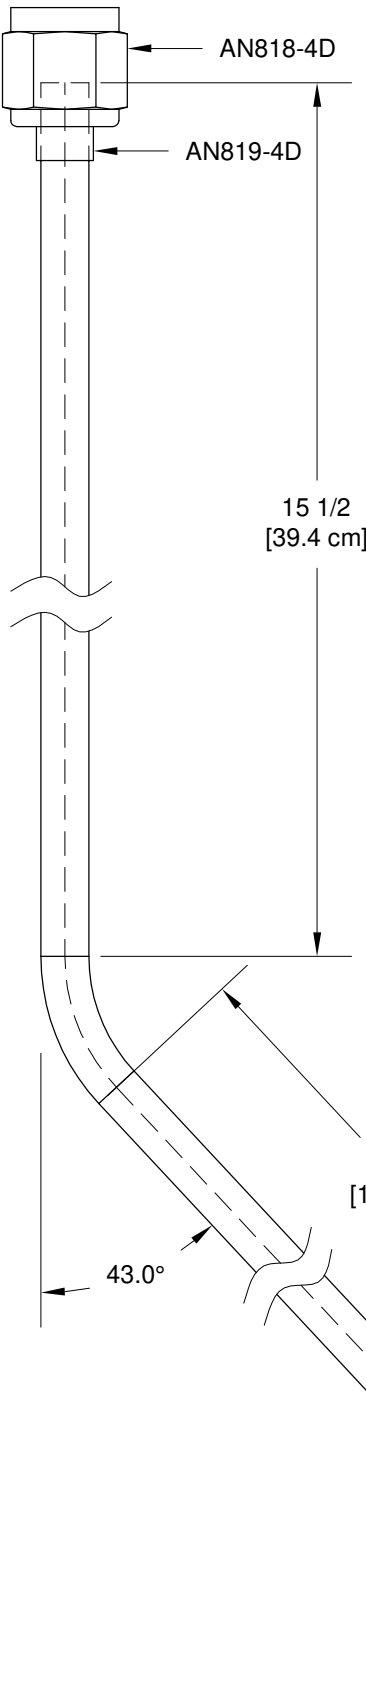

FIGURE 3: T-01235 OVERFLOW FUEL LINE
Step 5: Straighten 28 in. [71.12 cm] of ATO-035X1/4 tubing by unrolling it against a table top. Fabricate the T-01235 Overflow Fuel Line by making the two bends shown in Figure 3, sliding on the fluid fittings, and flaring the end of the tube.